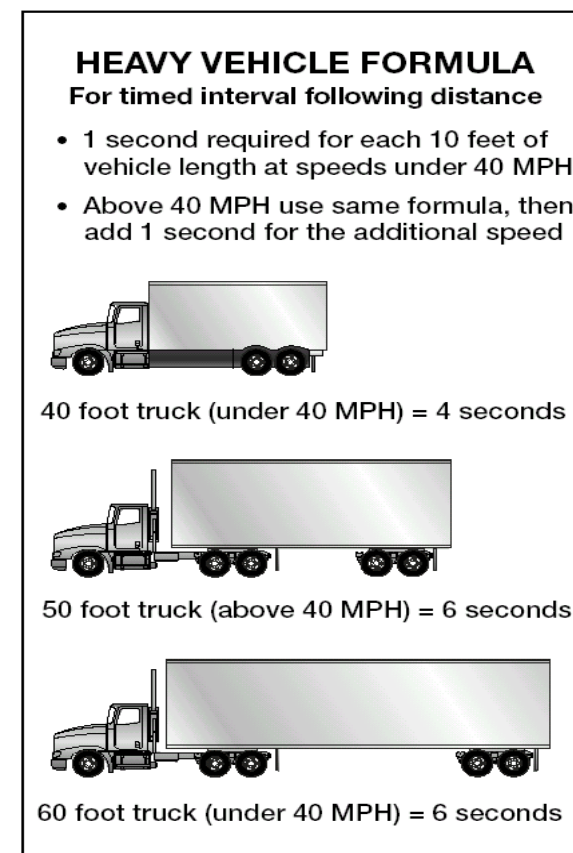

Figure 2.12
**How Much Space?** How much space should you keep in front of you? One good rule says you need at least one second for each 10 feet of vehicle length at speeds below 40 mph. At greater speeds, you must add 1 second for safety. For example, if you are driving a 40-foot vehicle, you should leave 4 seconds between you and the vehicle ahead. In a 60-foot rig, you'll need 6 seconds. Over 40 mph, you'd need 5 seconds for a 40-foot vehicle and 7 seconds for a 60-foot vehicle. See Figure 2.12.